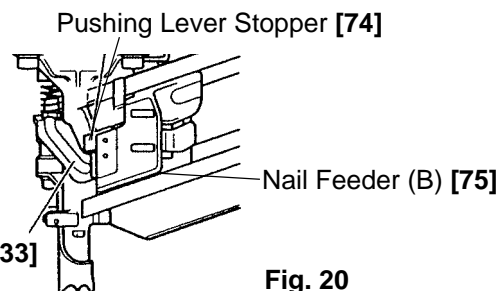

Fig. 20
- Check that Nail Feeder (B) [75] moves smoothly. Check that the Pushing Lever Stopper [74] is placed over Pushing Lever (B) [33] when Nail Feeder (B) [75] is at the front end (See Fig. 20.).